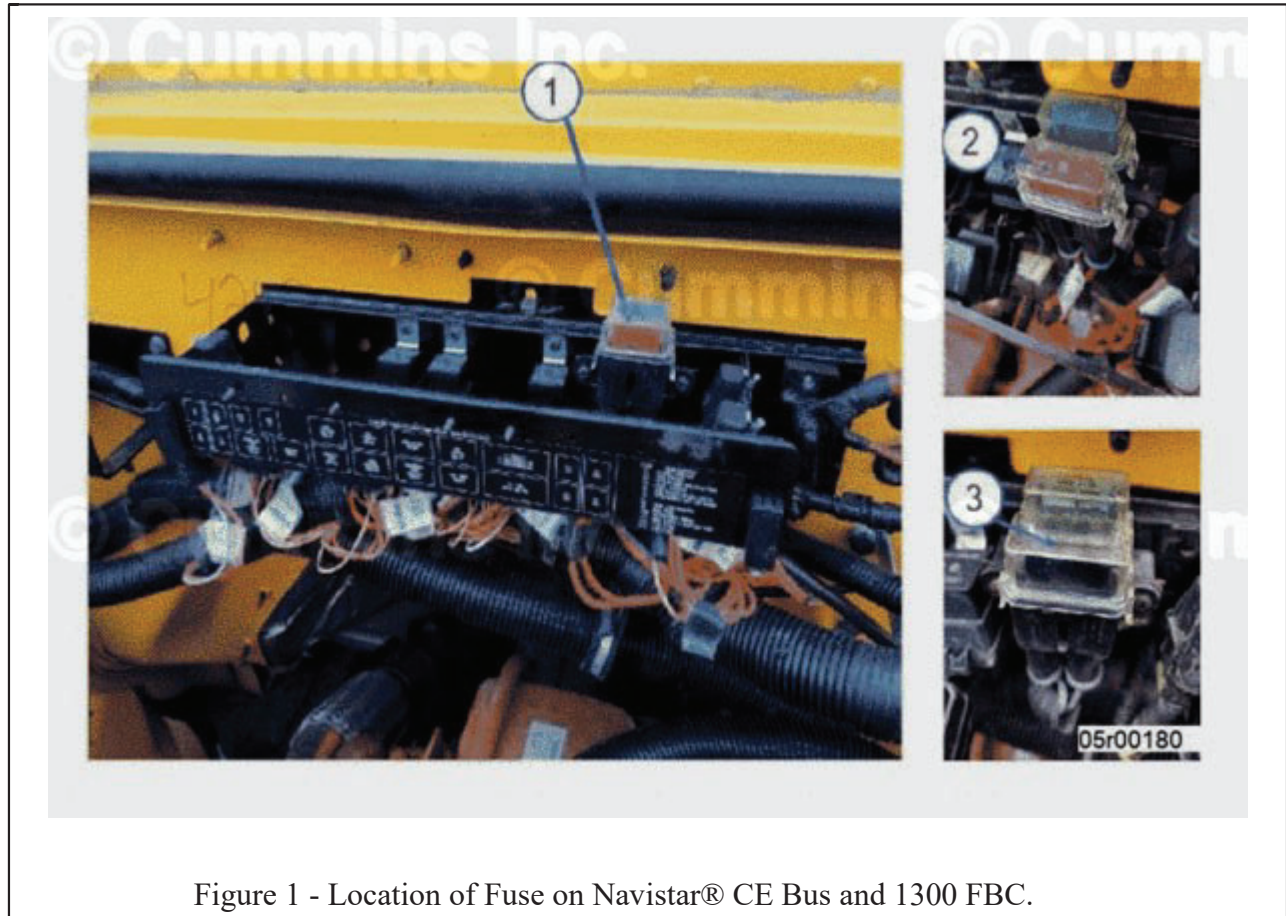

Figure 1 - Location of Fuse on Navistar® CE Bus and 1300 FBC.
In the meantime, to mitigate the safety risk, Cummins advises you to remove the fuel heater fuse as shown in Figures 1, 2 or 3 below (based on the vehicle).
**Navistar® CE Bus and 1300 FBC Fuse Removal Instructions (Reference Figure 1 below)**